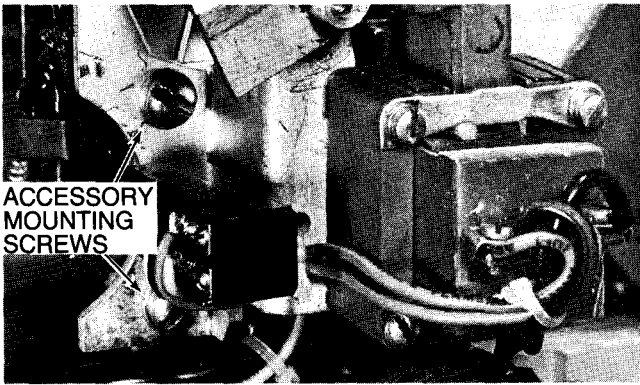

Figure 9.
2. Remove the accessory mounting screws Figure 9 and swing the accessory out of the way to expose the reset fork pivot pin.